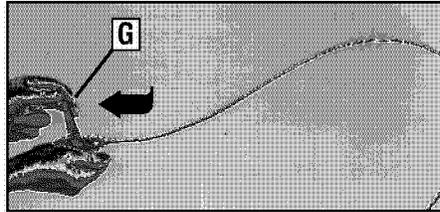

Figure 2-5: Carefully unwrap Wheel Gear Lever and move lever to DISENGAGE.
9. To remove the tiller from its shipping platform, first carefully unwrap the wheel gear cable (with attached lever - see Figure 2-5) from around the chassis. Move the Wheel Gear Lever (G) to the DISENGAGE position--this allows the wheels to rotate freely. Use the handlebars to roll the tiller